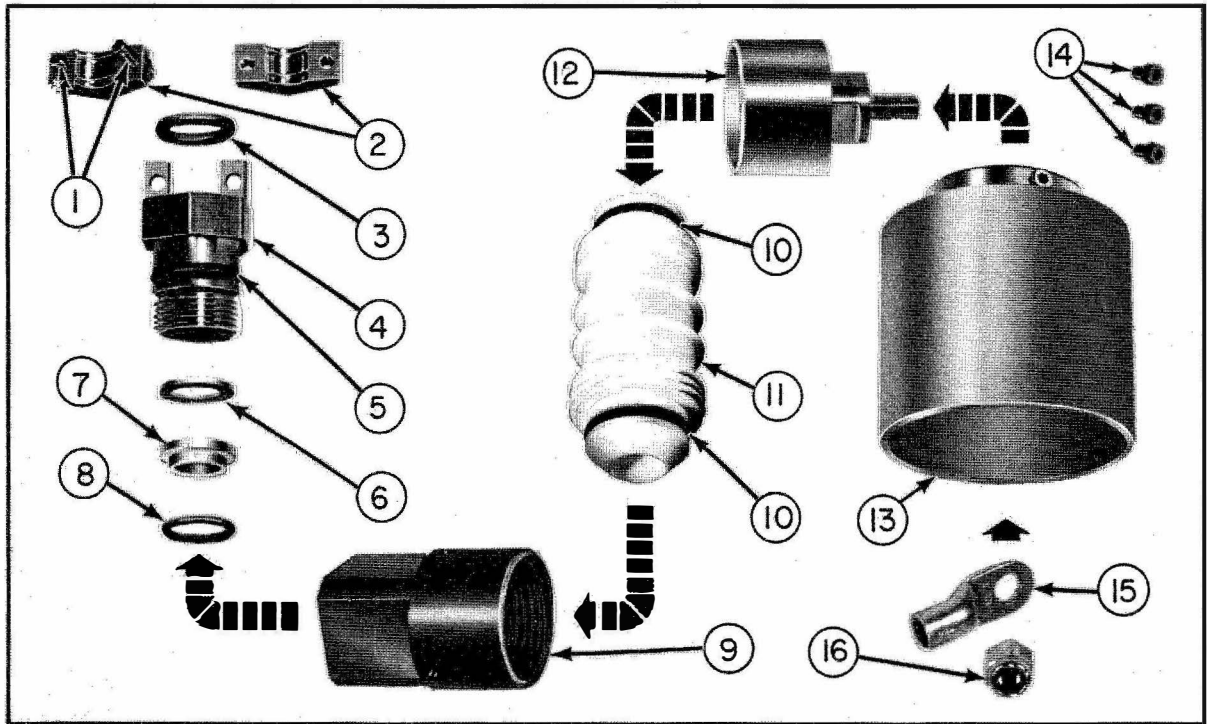

Figure 5-10b. MX-1203F/U Exploded
Step 2. - Remove socket head screws, piece 1, and cable clamps, piece 2, from cable seal nut, piece 4. Lubricate the O-ring, piece 3, with insulating compound and install in the internal groove at the tongue end of the cable seal nut. Lubricate O-ring, piece 5, with insulating compound and slip over the threaded end of the cable seal nut and into the groove as illustrated in figure 5-10b. Exercise extreme care that the O-ring is not cut on the sharp threads.